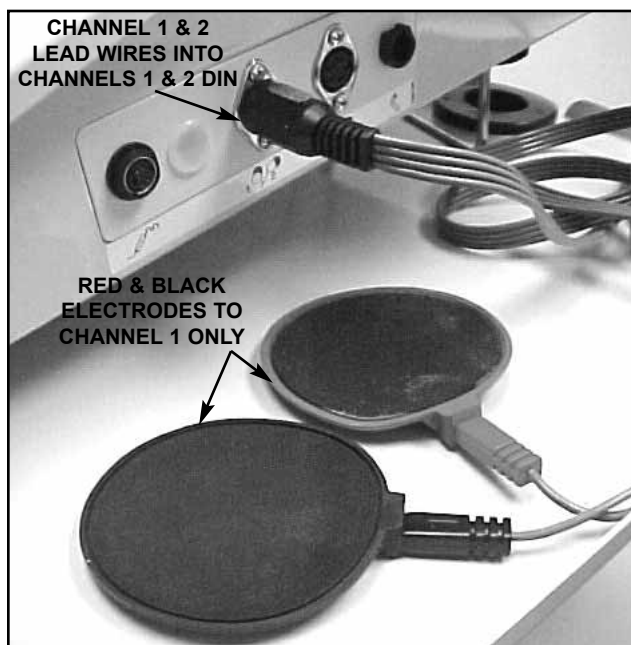

FIGURE 5.14
Lead Wires & Electrodes for Channels 1 & 2 required for this Test. See Figure 5.14.
1. Install standard Lead Wires into Channels 1 & 2 DIN and install 3" (76.2 mm) electrodes for Channel 1 ONLY onto their respective Lead Wire. See Figure 5.14.